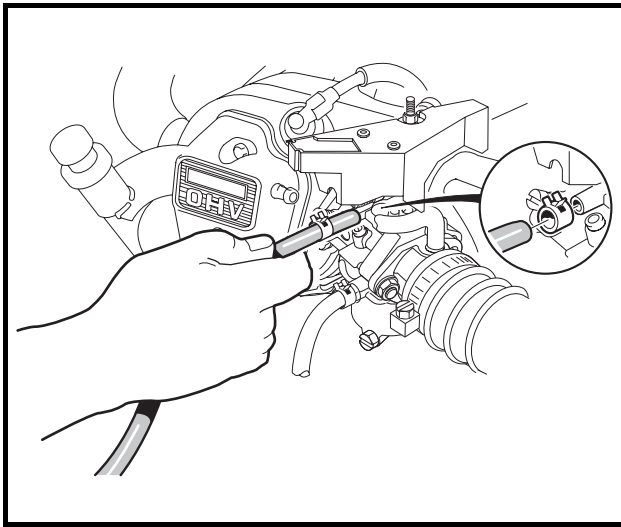

Figure 19-51 Carburetor Tube
28. Connect carburetor vent tube to carburetor and secure with hose clamp (Figure 19-51, Page 19-18).